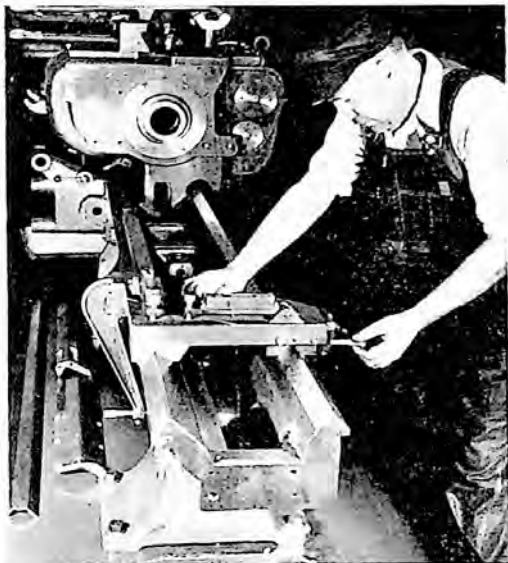

Fig. 3—Fixture Used for Aligning Turret Lathe Bed
- c. Scrape outside of front "V" straight and parallel to inside of front "V", using straight edge and an adjustable level mounted longitudinally on a fixture similar to that shown in Fig. 3.
- d. Scrape rear "V" straight and parallel to front "V" using straight edge, level and indicator in an adjustable block, as in Fig. 3.